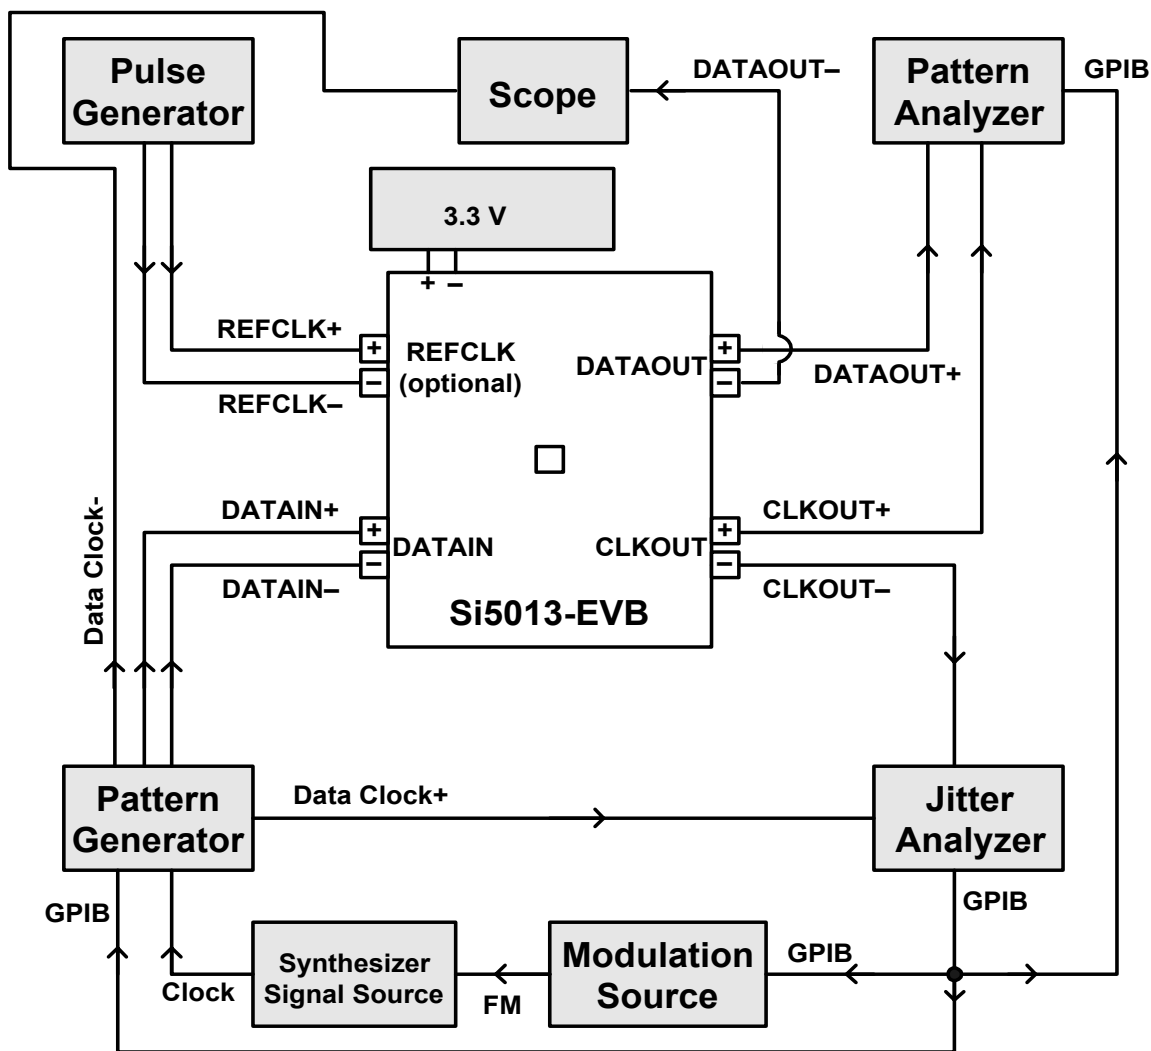

Figure 3. Test Configuration for Jitter Tolerance, Transfer, and Generation
The three critical jitter tests typically performed on a CDR device are jitter transfer, jitter tolerance, and jitter generation. By connecting the Si5013 Evaluation Board as shown in Figure 3, all three measurements can be easily made.
**Jitter Tolerance:** Referring to Figure 3, this test requires a pattern generator, a clock source (synthesizer signal source), a modulation source, a jitter analyzer, a pattern analyzer, and a pulse generator (all unconnected high-speed outputs must be terminated to 50  $\Omega$ ). During this test, the Jitter Analyzer directs the Modulation Source to apply prescribed amounts of jitter to the synthesizer source. This "jitters" the pattern generator timebase which drives the DATAIN ports of the CDR. The Bit-Error-Rate (BER) is monitored on the Pattern Analyzer. The modulation (jitter) frequency and amplitude is recorded when the BER approaches a specified threshold. The Si5013 limiting amplifier can also be examined during this test. Simply lower the amplitude of the incoming data to the minimum value typically expected at the limiting amplifier inputs (typically 10 mVPP for the Si5013 device).
**Jitter Generation:** Referring to Figure 3, this test requires a pattern generator, a clock source (synthesizer signal source), a jitter analyzer, and a pulse generator (all unconnected high-speed outputs must be terminated to 50  $\Omega$ ). During this test, there is no modulation of the Data Clock, so the data that is sent to the CDR is jitter free. The Jitter Analyzer measures the
**Jitter Transfer:** Referring to Figure 3, this test requires a pattern generator, a clock source (synthesizer signal source), a modulation source, a jitter analyzer, and a pulse generator (all unconnected high-speed outputs